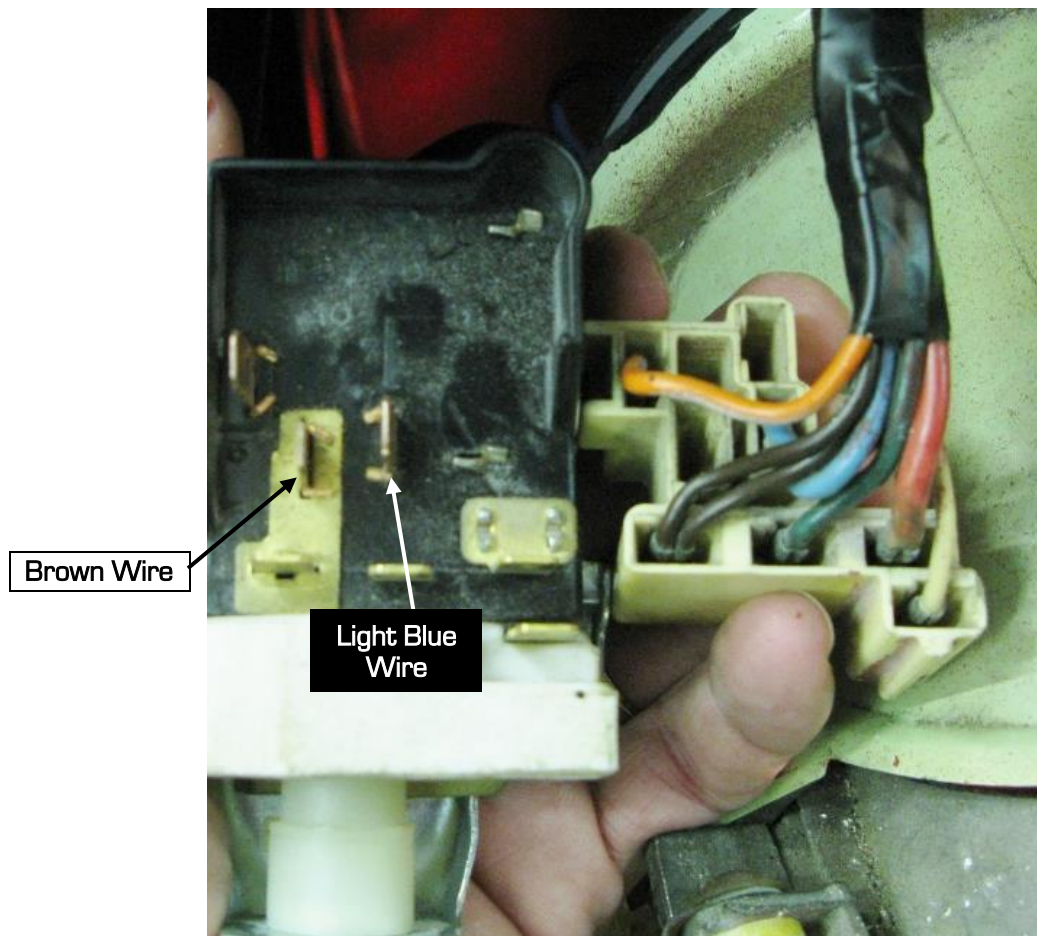
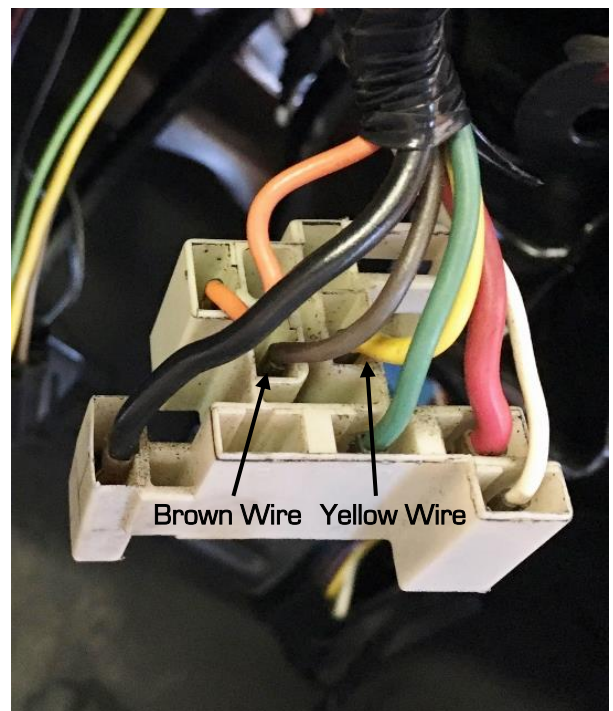

Figure 26 – Early C3 Stock Headlight Switch
Figure 28 – Late C3 Stock Headlight Switch
30. For the early & mid C3 applications, locate the light blue and brown wires and remove the terminals from the connector using a terminal removal tool or a small flat blade screwdriver (Figure 26 & 27 on the next page). For the later C3 applications, the yellow wire and the brown wire terminals will need to be removed (Figure 28 on the next page). **NOTE:** The brown wire is also in a different location between the early and mid to late C3 vehicles.